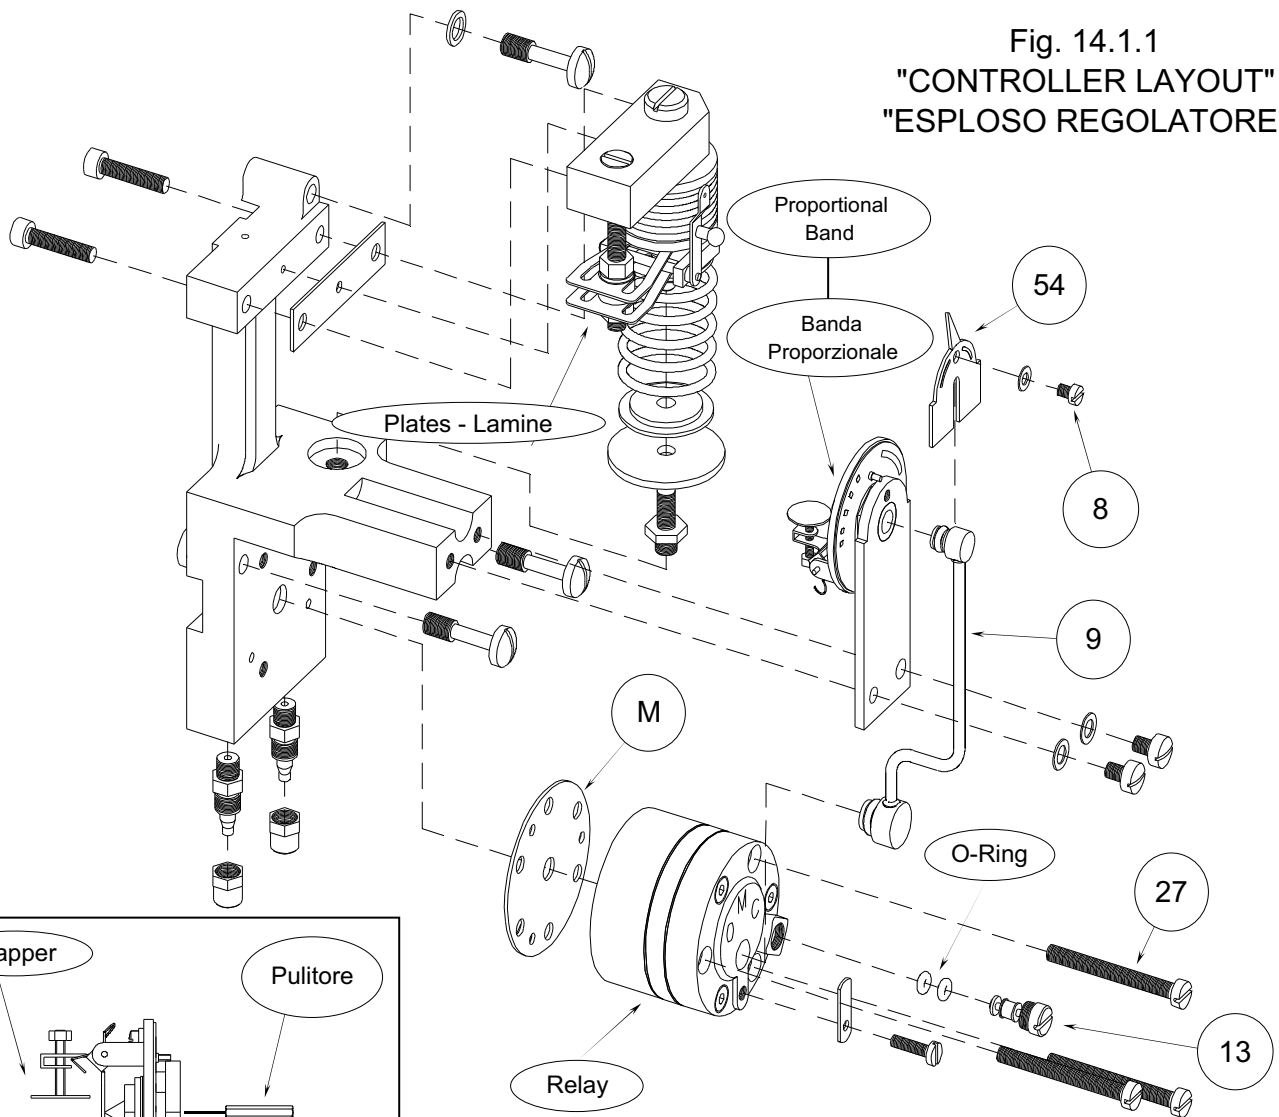
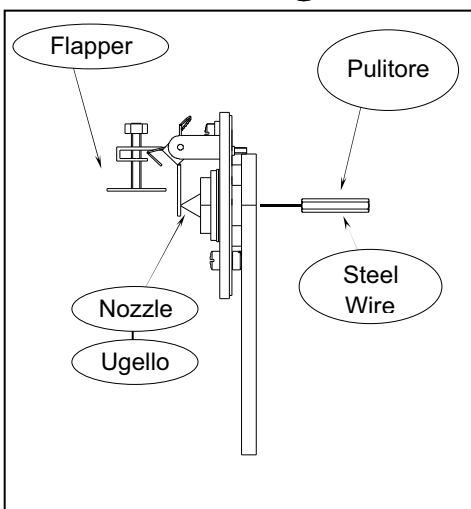
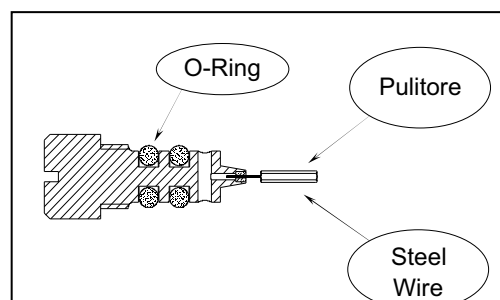

Fig. 14.1.1
Fig. 14.2.2
Fig. 14.1.2
Remove the screw (13) Fig. 14.1.1 and clean, as in Fig.14.1.2, with the appropriate cleaner placed on the cover inside the instrument. In the case where the choke is particularly obstructed, the cleaning operation can be integrated by a bath in trichloroethylene and a successive blowing with compressed air. Before reassembling the screw (13) lubricate the O-Ring with a silicone grease.
Remove the screw (13) (see Fig. 14.1.1) and clean, as shown in Fig. 14.1.2, by means of the supplied steel wire situated inside the instrument. If the capillary orifice is obstructed, clean it with a bath in trichloroethylene and a blow of compressed air. Before fastening the screw (13), we recommend lubricating the O-rings by applying a coat of silicone lubricant.
Rimuovere la vite (8) Fig. 14.1.1 estrarre il quadrantino (54), il tubo (9) e pulire, come da Fig. 14.2.2, con l'apposito pulitore posto sul coperchio all'interno dello strumento. Durante questa operazione mantenere il flapper scostato dall'ugello, per evitare di scalfirlo. Prima di rimontare il tubo (9) lubrificare l' O-Ring di tenuta con un velo di grasso al silicone.
Unscrew the screw (8) (see Fig. 14.1.1). Remove the dial (54), the tube (9) and clean, as shown in Fig. 14.2.2, by means of the supplied steel wire situated inside the instrument. During this operation keep the oscillating plate away from the nozzle, to avoid scratching it. Before mounting the tube (9), we recommend lubricating the O-rings by applying a coat of silicone lubricant.